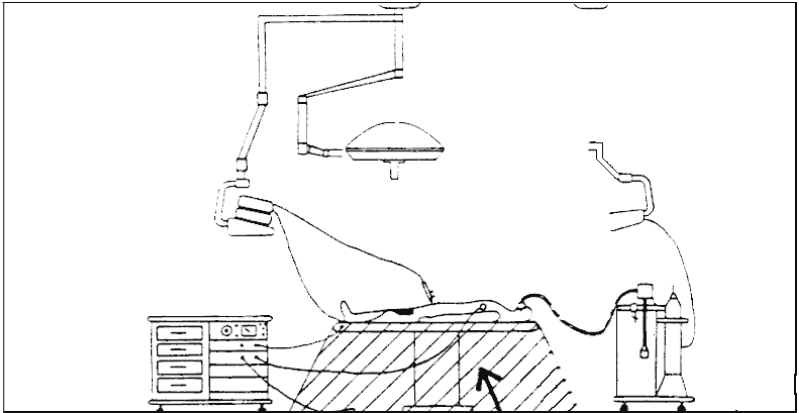

Figure 10: Location that only AP footswitches can be used
- In the event of using the non-AP pedals, do not clean and disinfect them with the explosive substance. Do not use in Medical Zone, i.e. 25-centimeter site where the leakage of combustible anesthetic gases may occur. Medical Zone is shown in figure 10.